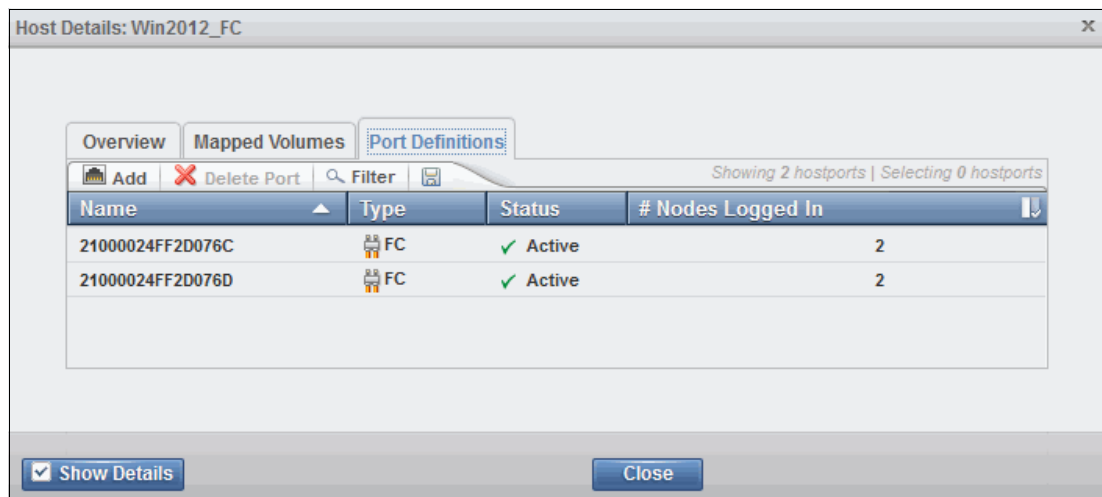

Figure 8-26 Host Details: Port Definitions
6. Figure 8-26 shows the Port Definitions tab, which shows the configured host ports and their status. This tab provides the following information: